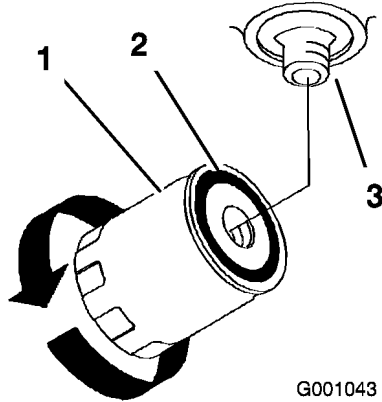

Figure 68
7. Apply a thin coat to the rubber gasket on the replacement filter (Figure 68).
9. Fill the hydraulic tank with hydraulic fluid until the fluid overflows the filter and then turn the oil filter clockwise until the rubber gasket contacts the filter adapter, then tighten the filter an additional 1/2 turn (Figure 68).